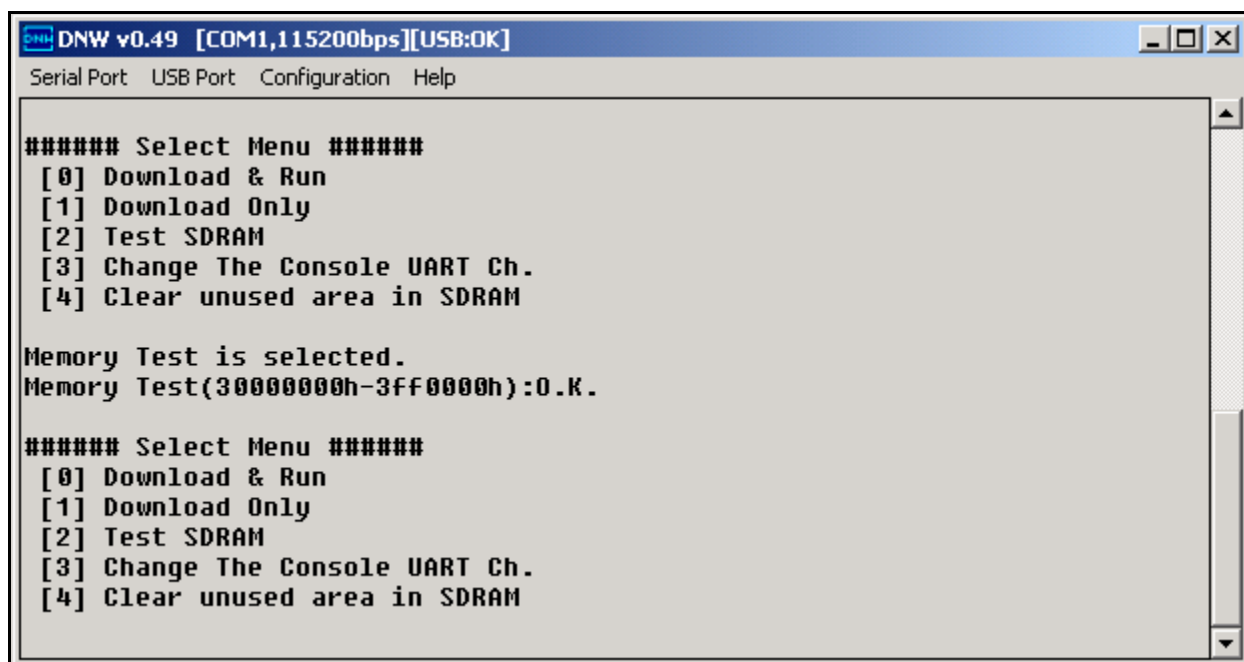

Figure 6-1 SDRAM Status
3. Please select the 'Connect' option from the 'Serial Port' menu. Reset the board and select '2' to check whether SDRAM can Read and Write. Now the DNW application window will appear as shown below in the figure 6-1.